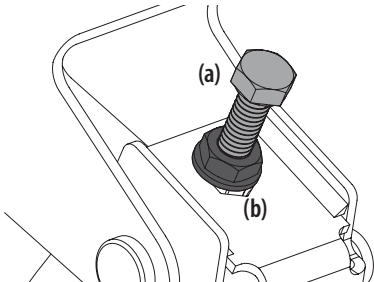

Figure 39
3. Locate the adjustment bolts (a) on the left and right side of the deck. See Figure 39.
4. Loosen, but do not remove, the jam nuts (b) on the adjustment bolt. Adjust either the right or left adjustment bolt up or down as necessary until the side-to-side heights are equal. See Figure 39.
5. When proper adjustment is achieved, re-tighten the jam nuts (b). Tighten to 57 ft-lbs (77 N-m). See Figure 39.